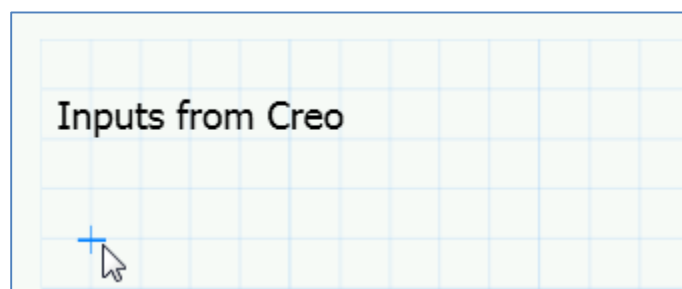

Figure 10: Text block created, clicked below.
First we need to define what we will import from Creo model. Select **Document** tab and select **Text Block** (A) from *Regions* group. Write *Inputs from Creo* to the field. It is a good practice to comment calculations, it makes easier to change them later. Click somewhere below previously created line (Figure 10).